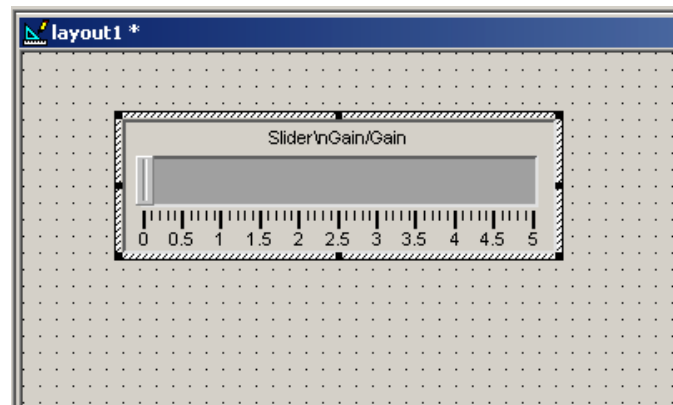

Figure 2.13: Slider Control with Variable handled and its control limits
- The new Slider control will display the handled variable and will no longer be bordered with a red line as shown in Fig. 2.13.